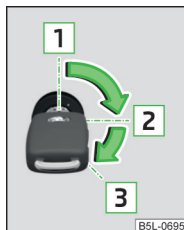

Fig. 120
Positions of the vehicle key in the ignition lock » Fig. 120
- Turn the key to position **3** » Fig. 120 on page 89, the start-up process will begin. Then release the key, the engine will start automatically.
- Turn key to position **1** » Fig. 120 on page 89.